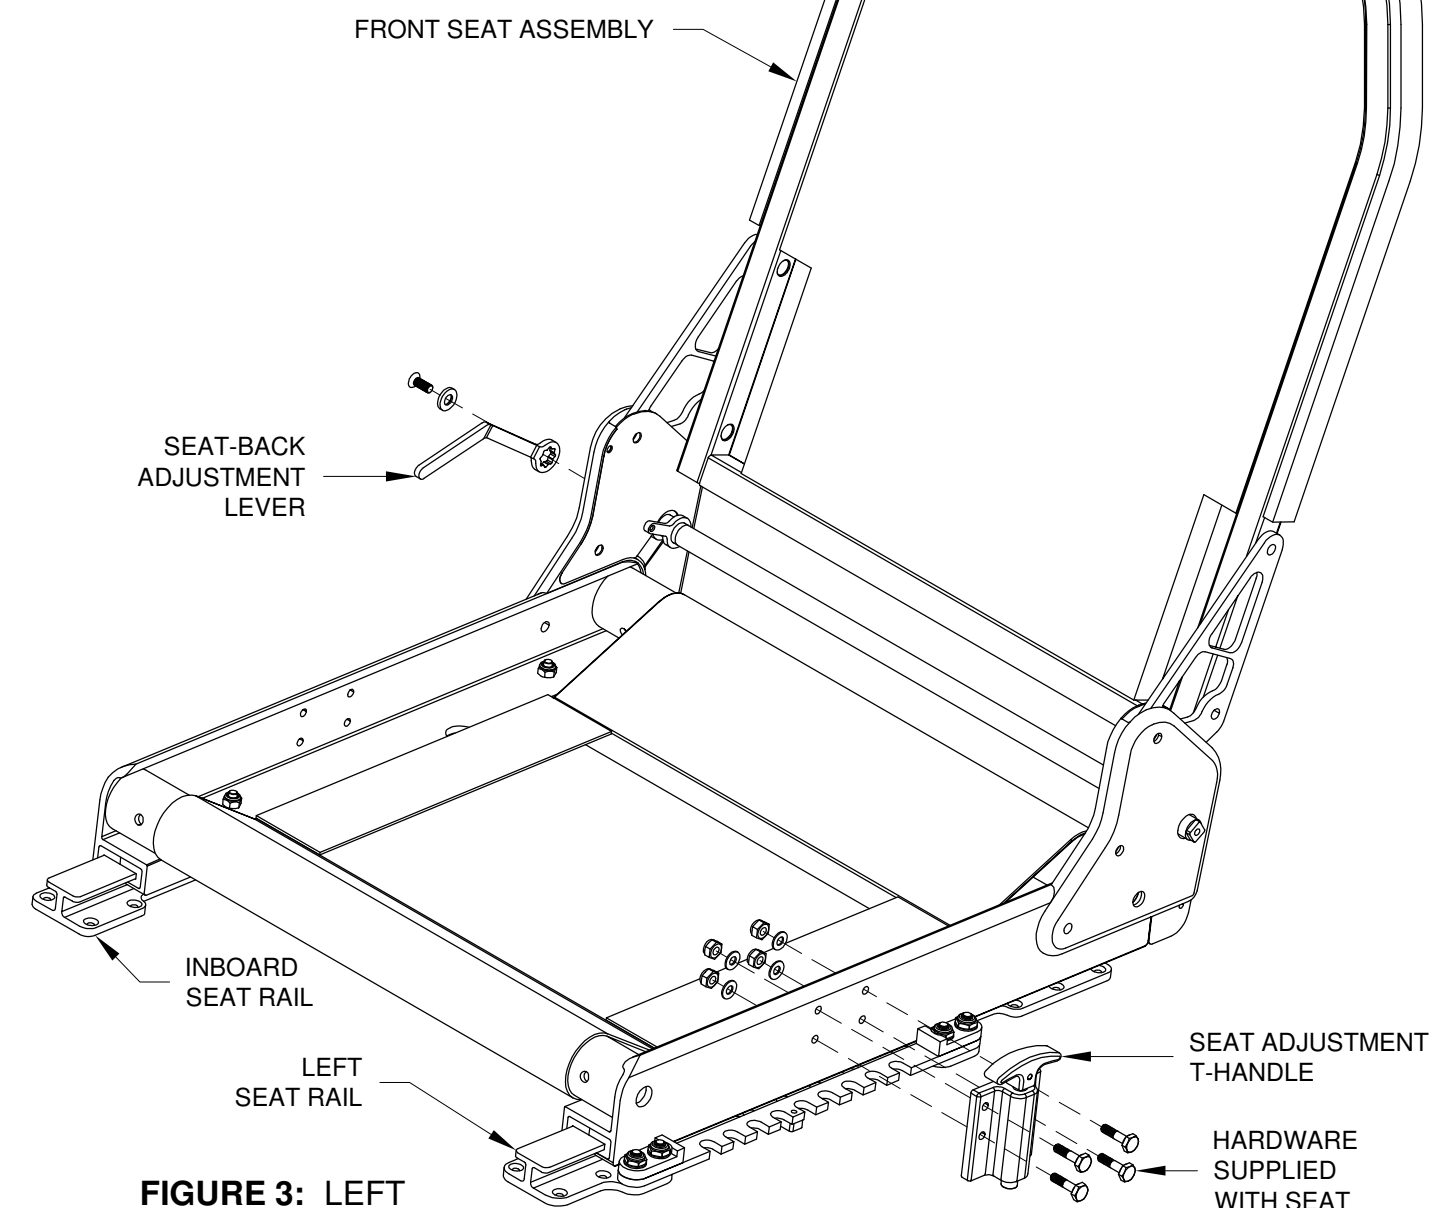

FIGURE 3: LEFT SEAT INSTALLATION
Step 4: Select the Front Seat Assembly which has the seat-back adjustment lever on the right side (or move the lever from the left side to the right) as shown in Figure 3. Remove the seat adjustment T-handle, then slide the Front Seat Assembly onto the Left Seat Rail and the corresponding Inboard Seat Rail (the F-1016E-L and F-1 Flap Torque Tube Covers will have to be removed).
Step 5: Secure the seat adjustment T-handle to the left side of the Front Seat Assembly as shown in Figure 3.